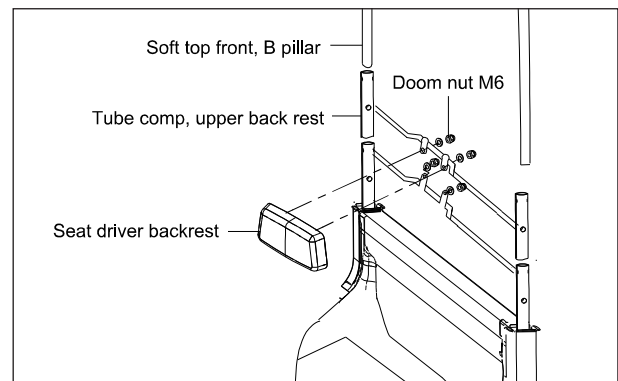

Fig. 9.3
- Fit the back rest driver and fasten it with Hexagonal nut M6 4 nos along with Plain washer and wave spring washer 4 nos .(Fig. 9.3)